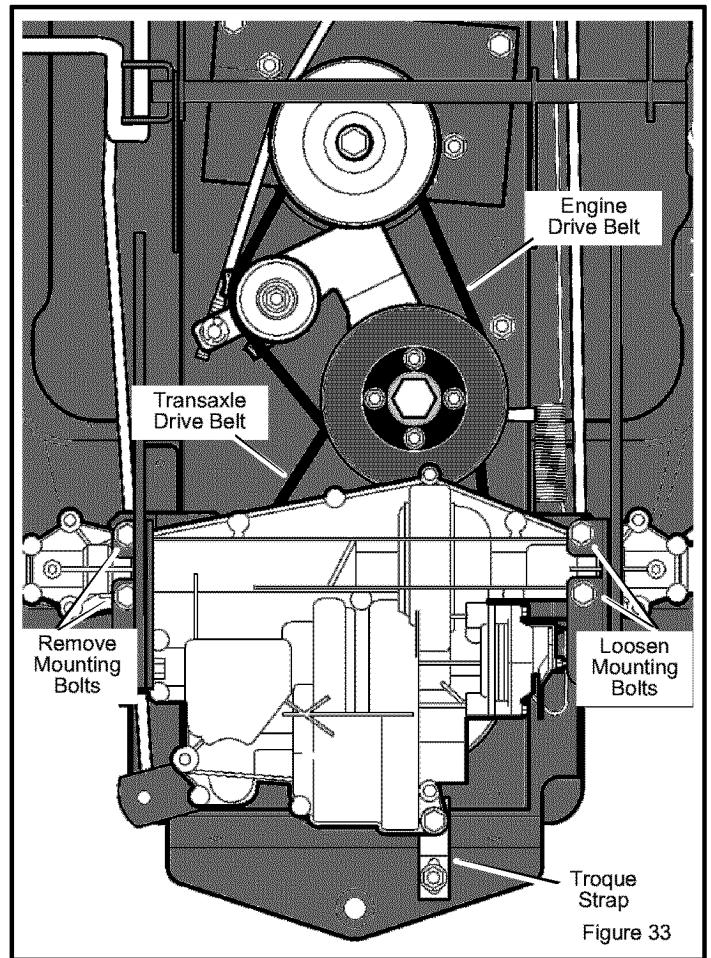

Figure 33
5. Remove the **carriage bolt** from the **torque strap** (see Figure 33).
9. Loosen the **mounting bolts** on the left side of the **transaxle**. Loosen until the mounting nuts are at the end of the **mounting bolts** (see Figure 33).